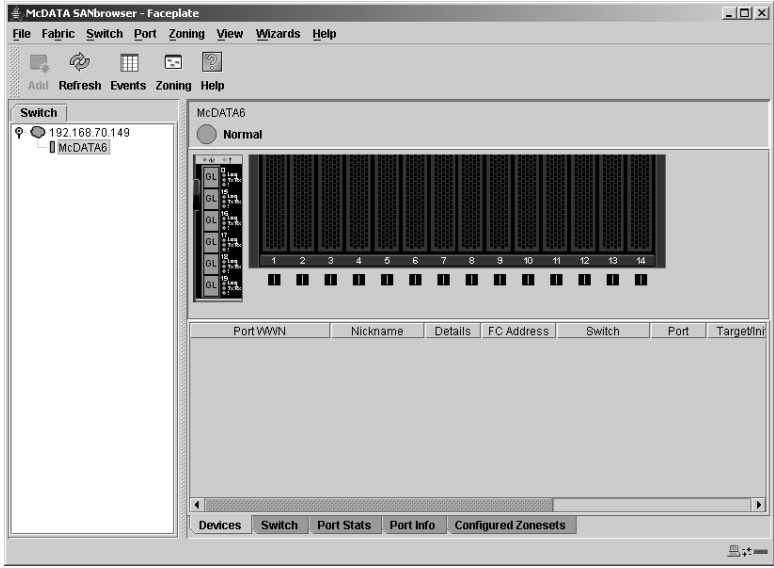

Figure 23. McDATA SANbrowser Faceplate window
16. Click the switch labeled **McDATA 6**. The McDATA SANbrowser Faceplate window opens, as shown in Figure 23.